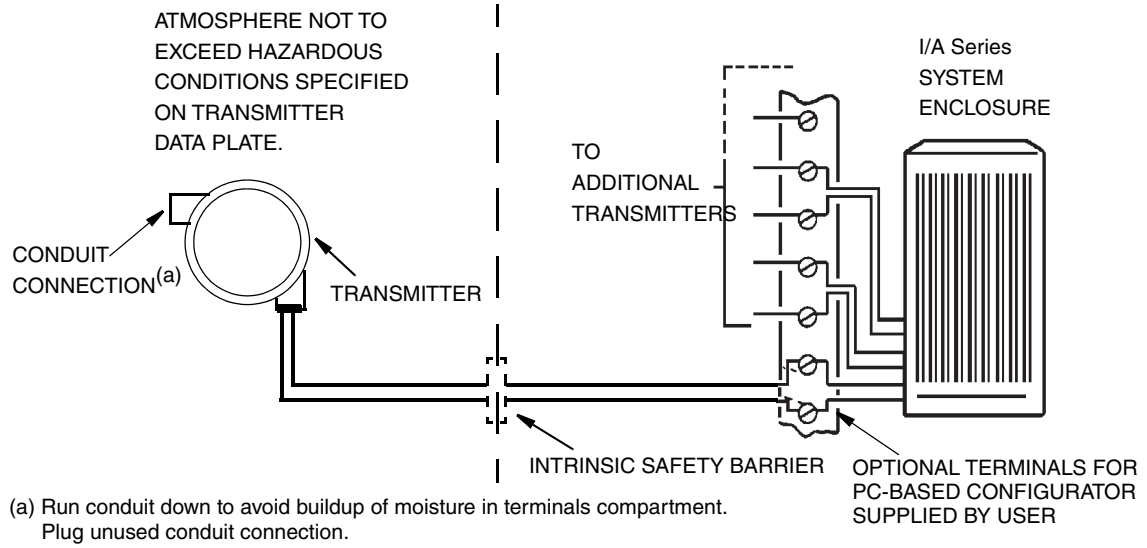

Figure 13. Typical Transmitter Wiring to an I/A Series System
2. Run signal wires (0.50 mm² or 20 AWG, typical) through one of the transmitter conduit connections as shown in Figure 13. Use twisted pair to protect the digital output and/or remote communications from electrical noise. Screened (shielded) cable may be required in some locations.